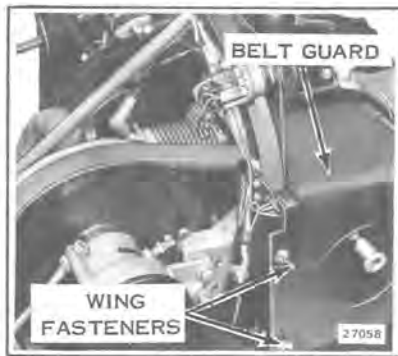

Figure 10-1
- a. Remove four wing fasteners and belt guard, Figure 10-1.